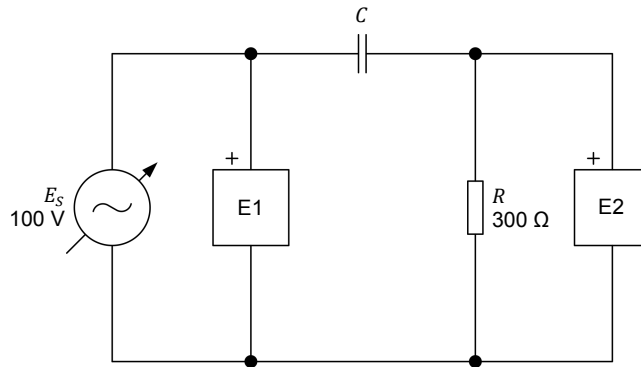

Figure 1-16. AC circuit with a resistor and a capacitor.
21. Modify the circuit so that it is as shown in Figure 1-16 (replace the inductor by a capacitor). This circuit contains a resistor  $R$  and a capacitor  $C$ . Capacitors are studied in the next unit of this manual.
The value of capacitor  $C$  in the circuit of Figure 1-16 is referred to as the capacitance and is expressed in microfarads ( $\mu\text{F}$ ). The capacitance value to be used depends on the frequency of the ac power source as is indicated in Table 1-3.